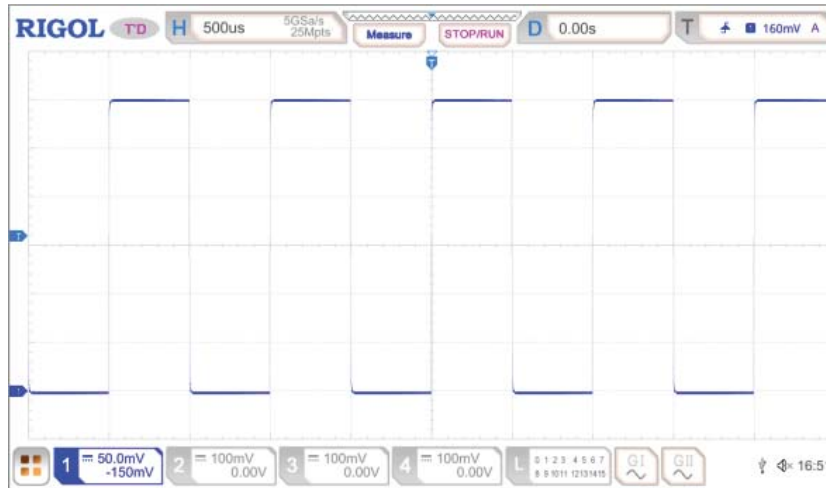

Figure 11 Square Waveform Signal
5. Observe the waveform on the display. In normal condition, the square waveform as shown in Figure 11 should be displayed.